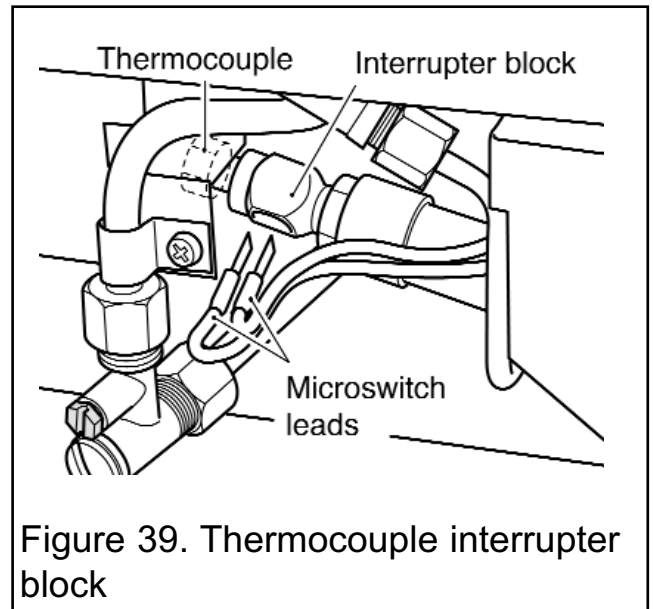

Figure 39. Thermocouple interrupter block
2. Loosen the thermocouple nut to free the microswitch leads and pull the leads clear of the thermocouple interrupter block (See figure 39).
16.13 To remove the thermocouple interrupter block (See figure 39).